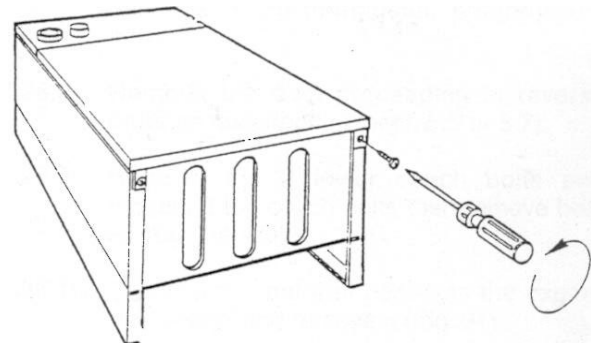

Fig. 19
- 5.4.1 - **Remove the 2 screws that** secure the upper part of the front panel of the casing (Fig. 19).